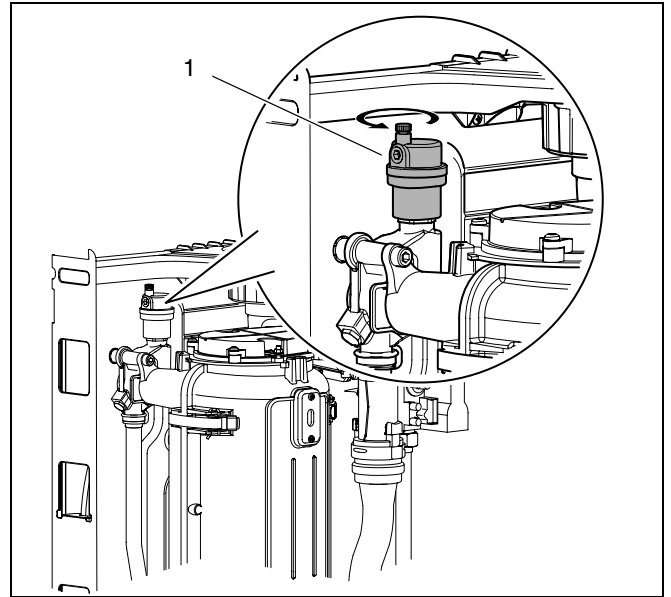

fig. 39 Automatic air vent
- Loosen the automated air vent one turn (fig. 39).